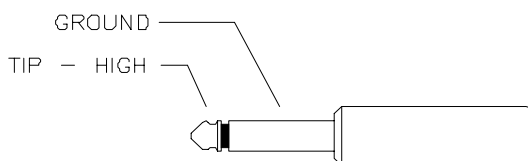

Fig 13. Mono (TS) plug
Connections to the Cue return stereo input should be made with standard unbalanced tip and sleeve (TS) 1/4" plugs as shown in Figure 13.